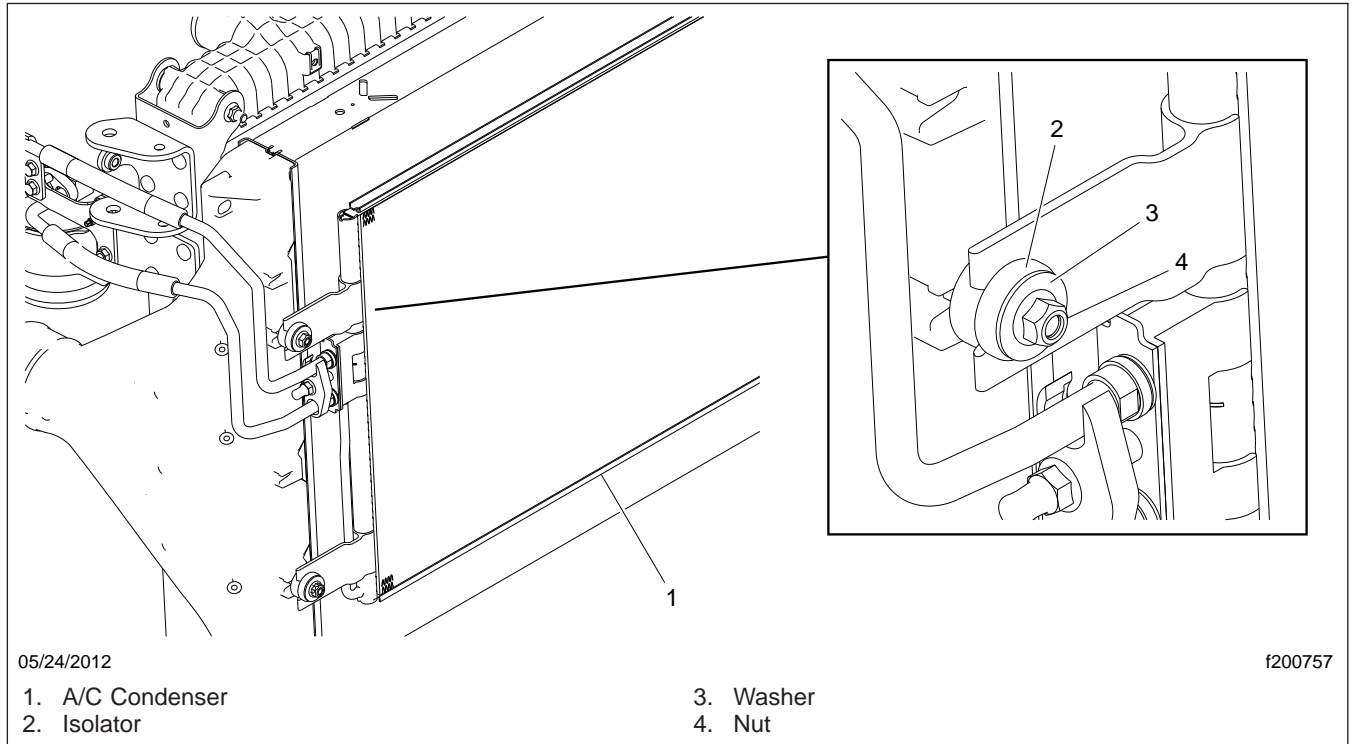

Fig. 3, A/C Condenser Installation
- 12.2 Unbolt the A/C condenser from the CAC. See **Fig. 3**.
- 39.1 Move the condenser into position and secure it temporarily. See Fig. 3.